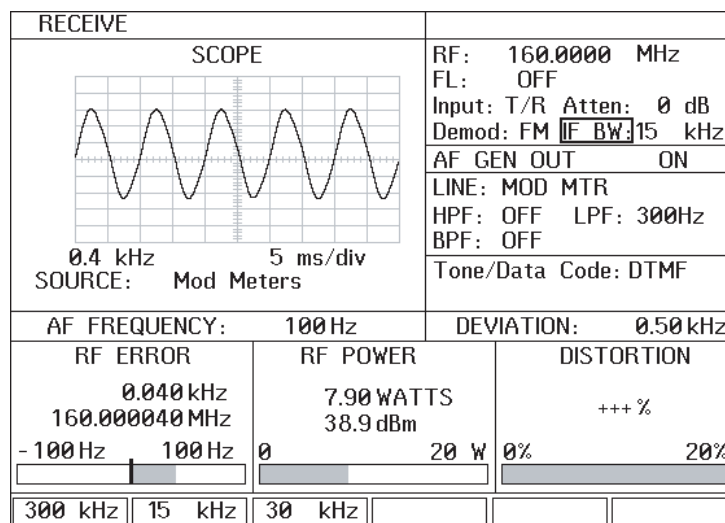

Figure 16: IFR COM-120 CTCSS Test Configuration
4. In the RECEIVE window, set the IF BW at 15 KHz as shown in Figure 16.
5. Highlight LINE and select CONFIG, then set the MOD METERS LOW PASS FILTER for 300 Hz as shown in Figure 16.